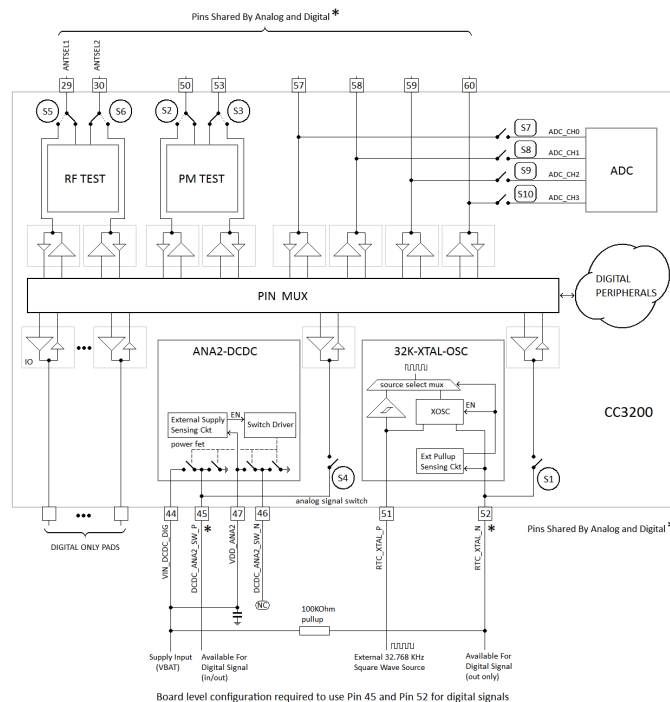

Figure 3-2. Board Configuration to Use Pins 45 and 52 as Digital Signals
(1) LPDS mode: The state of unused GPIOs in LPDS is input with 500 kΩ pulldown. For all used GPIOs, the user can enable internal pulls, which would hold them in a valid state.
(2) Hibernate mode: The CC3200 device leaves the digital pins in a Hi-Z state without any internal pulls when the device enters hibernate state. This can cause glitches on output lines unless held at valid levels by external resistors.
(3) To minimize leakage in some serial flash vendors during LPDS, TI recommends the user application always enable internal weak pulldowns on FLASH_SPI_DATA and FLASH_SPI_CLK pins.
(4) This pin has dual functions: as a SOP[2] (device operation mode), and as an external TCXO enable. As a TXCO enable, the pin is an output on power up and driven logic high. During hibernate low-power mode, the pin is in a high impedance state but pulled down for SOP mode to disable TCXO. Because of SOP functionality, the pin must be used as output only.
(5) Higher leakage current from the onboard serial flash can occur due to floating inputs when the device enters Hibernate mode. See reference schematics for recommended pull-up and pull-down resistors.
(6) For details on proper use, see Section 3.2, Drive Strength and Reset States for Analog-Digital Multiplexed Pins.
(7) This pin is one of three that must have a passive pullup or pulldown resistor on board to configure the chip hardware power-up mode. For this reason, the pin must be output only when used for digital functions.
(8) This pin is reserved for WLAN antenna selection, controlling an external RF switch that multiplexes the RF pin of the CC3200 device between two antennas. These pins should not be used for other functionalities in general.
- (9) Device firmware automatically enables the digital path during ROM boot.
- (10) Pin 45 is used by an internal DC-DC (ANA2_DCDC) and pin 52 is used by the RTC XTAL oscillator. These modules use automatic configuration sensing. Therefore, some board-level configuration is required to use pin 45 and pin 52 as digital pads (see Figure 3-2). Because the CC3200R device does not require ANA2_DCDC, the pin can always be used for digital functions. However, pin 47 must be shorted to the supply input. Typically, pin 52 is used for RTC XTAL in most applications. However, in some applications a 32.768-kHz square-wave clock might always be available onboard. In such cases, the XTAL can be removed to free up pin 52 for digital functions. The external clock must then be applied at pin 51. For the chip to automatically detect this configuration, a 100K pull-up resistor must be connected between pin 52 and the supply line. To prevent false detection, TI recommends using pin 52 for output-only functions.
- (11) VDD_FLASH must be shorted to V_{supply}.
- (12) To use the digital functions, RTC_XTAL_N must be pulled high to V_{supply} using 100-KΩ resistor.
- (13) This pin is shared by the ADC inputs and digital I/O pad cells. Important: The ADC inputs are tolerant up to 1.8 V. On the other hand, the digital pads can tolerate up to 3.6 V. Hence, care must be taken to prevent accidental damage to the ADC inputs. TI recommends that the output buffer(s) of the digital I/Os corresponding to the desired ADC channel be disabled first (that is, converted to high-impedance state), and thereafter the respective pass switches (S7, S8, S9, S10) should be enabled (see Section 3.2, Drive Strength and Reset States for Analog-Digital Multiplexed Pins).
- (14) Requires user configuration to enable the ADC channel analog switch. (The switch is off by default.) The digital I/O is always connected and must be made Hi-Z before enabling the ADC switch.